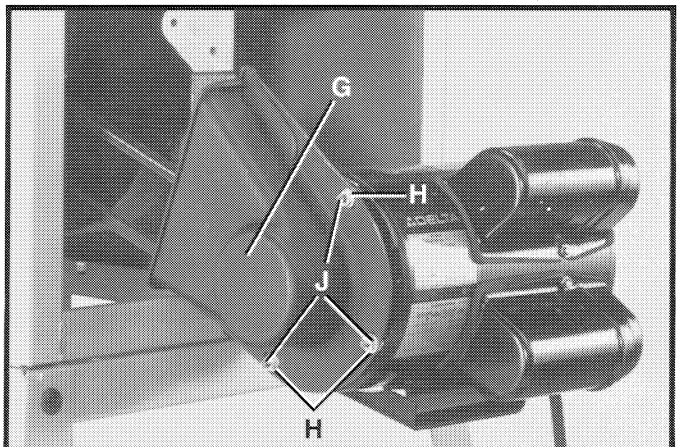

Fig. 19
3. Fasten belt and pulley guard (G) Fig. 19, to the remaining three motor studs using six flat washers, three of which are shown at (H) and three hex head machine nuts (J). **NOTE:** One flat washer (H) is to be located on the outside of the belt and pulley guard and one located on the inside of the belt and pulley guard.